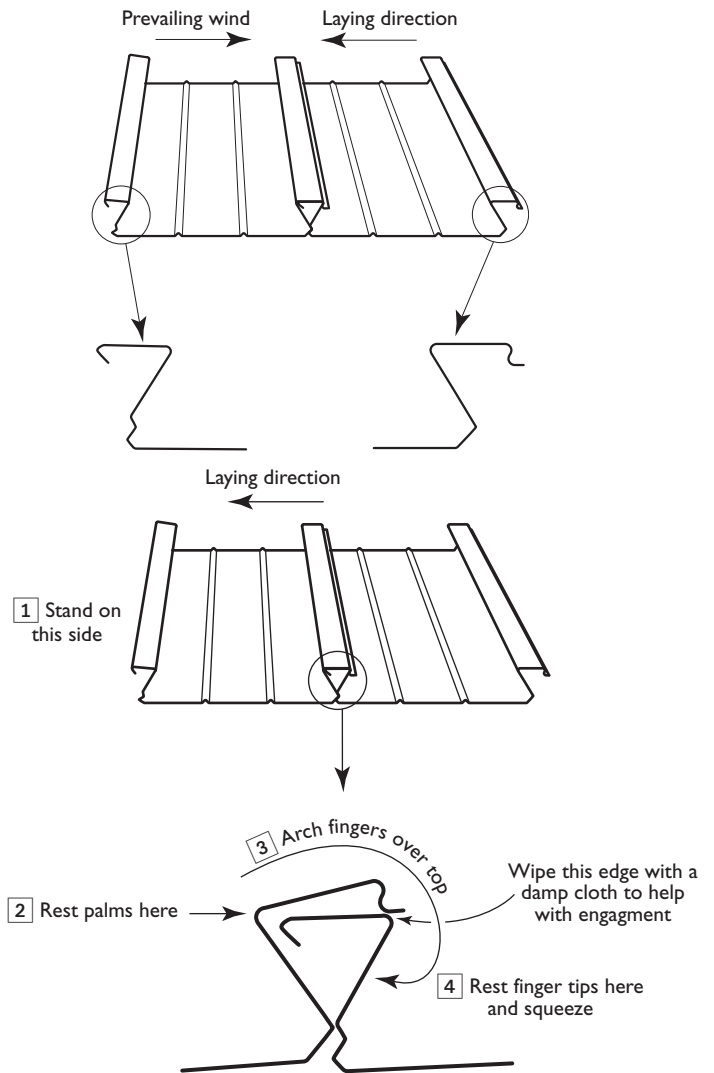

Figure 26
- Position ladders so you can work safely and quickly. (Figure 26).